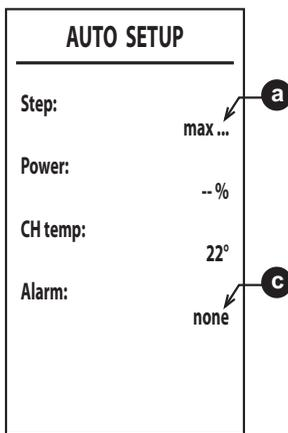

fig. 39
6. After ignition, the burner goes to heating at the various powers (max, med, min) indicated by point **a** (fig. 39).
8. If the ignition sequence described in point "6" is not successful, the message **max\_err** at point **a** and an error code at point **c** will appear (fig. 39).